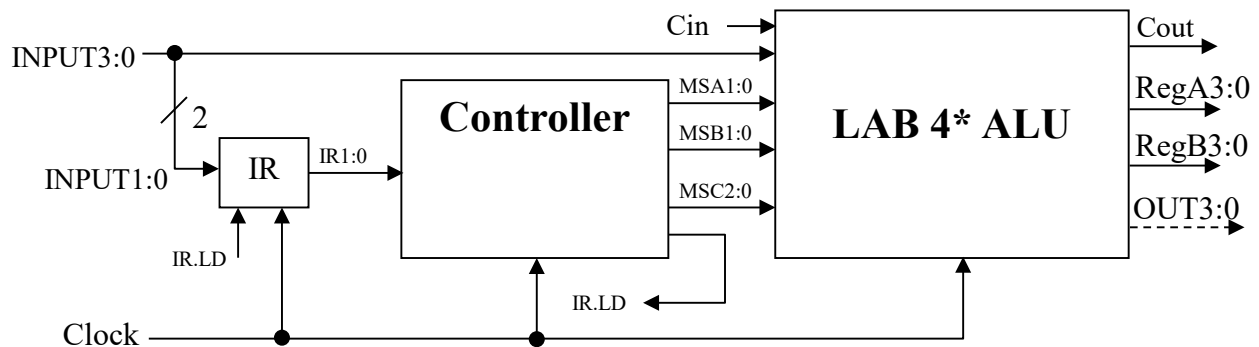

Figure 1. Block diagram of system components.
A state machine controller and Instruction Register (IR) are now added to the Lab 4* ALU to facilitate the execution of simple instructions. See Figure 1 for the total system components of this section. The **IR** register contains **2 bits** that represent the four instructions shown in Table 3. Note that the right shift is **NOT** sign-extended, i.e., a zero is shifted into the most significant bit of REGA with the SRA instruction. In this part of the lab, you will ultimately use Quartus to make the project **LAB6_Part1**.